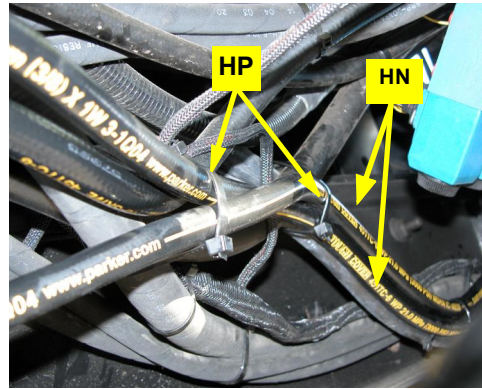

Figure 5b: Pressure and tank hoses routed to steering block
- b. Route hoses **HN** down to the hydraulic steering block installed at step 3. Route the hoses inside the tractor frame along with other plumbing and clear of moving parts (Figure 5b).